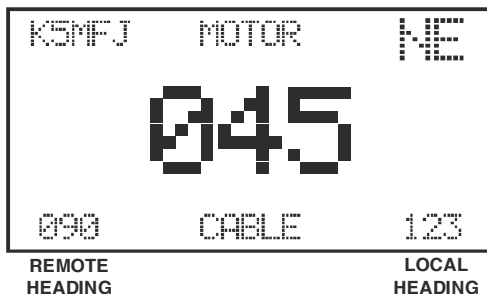

Figure 5 LCD Display
2. The DCU-2 display should look similar to the display shown in Figure 5. The numeric display in the center indicates the current bearing of your rotator. The numeric display in the lower right corner indicates the target bearing that is manually set using the "HEADING SET" knob or "LOCAL HEADING". The numeric display in the lower left indicates target bearing that is computer set or "REMOTE HEADING". The character display in the upper right corner indicates the compass heading in "NESW" format. The alphanumeric display in the upper left corner is where the call sign is displayed if programmed. If the center display reads a steady "999", disconnect your control cable and check the cable wiring with an ohmmeter. See the section "Checking the Rotator Resistances from the Ground". Proceed if the cable checks OK. 999 also indicates that the cable may not be not plugged in.